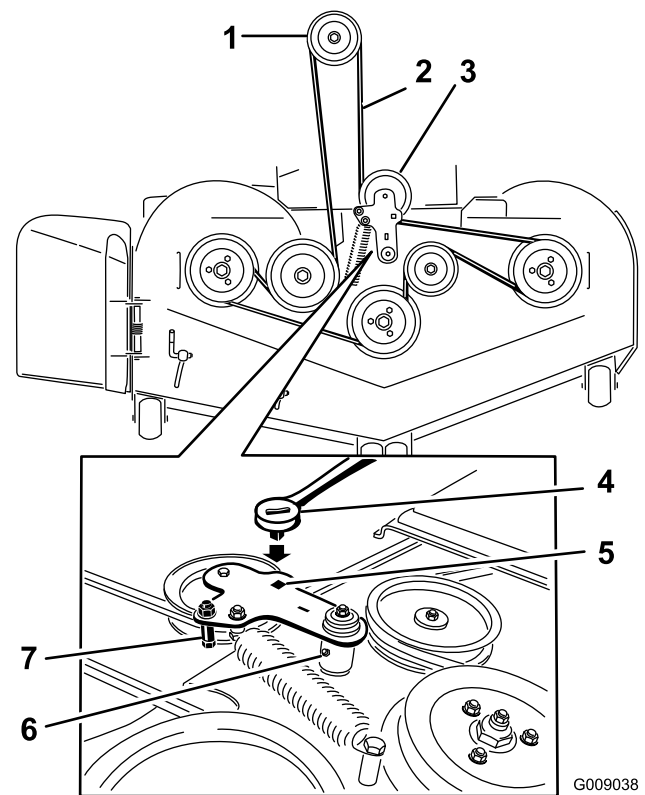

Figure 74
10. Install the belt guide on the idler arm shown in Figure 74.
11. Using the ratchet in the square hole, install the idler spring (Figure 74).
5. Use a ratchet in the square hole in the idler arm to remove tension on the idler spring (Figure 74).
7. Remove the belt guide on the spring loaded idler arm shown in Figure 74.
9. Install the new belt around the mower pulleys and the clutch pulley under the engine (Figure 74).